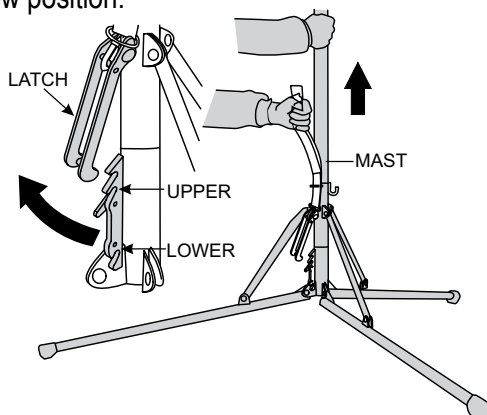

Figure 21. Retracting Tripod Legs
- To retract tripod legs (Figure 21) and place in the stow position, lift up on mast while pulling up on the velcro strap. Continue pulling upward on the mast until the tripod legs are fully retracted and are in the stow position.